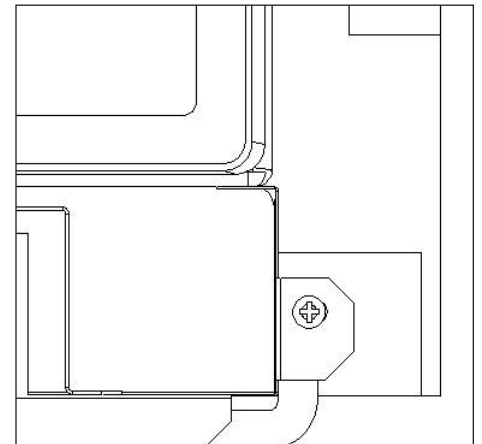

Figure 8
- C. Secure bottom duct work assembly with two mounting screws (805187) for trim. Avoid pinching cord between oven and wall (See Fig. 8).